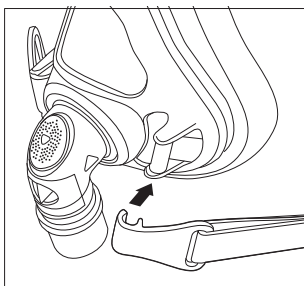

Figure 3
2. **Headgear clips** - Press into place to connect.(Figure 3).